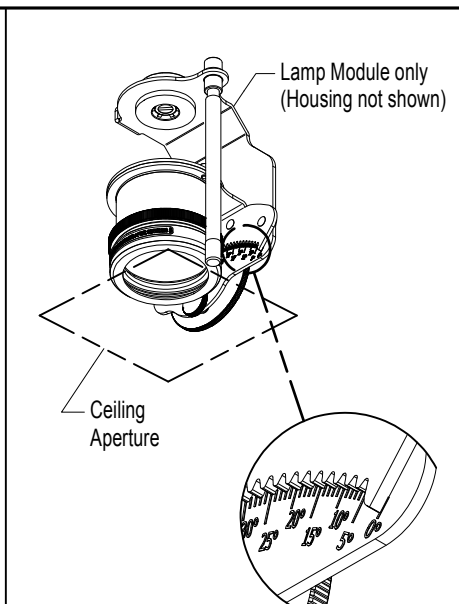

FIG. 2.2 Adjust Lamp Module to 0°
Step 2 Adjust vertical axis to 0° (lamp aiming perpendicular to mounting surface) - Fig 2.2